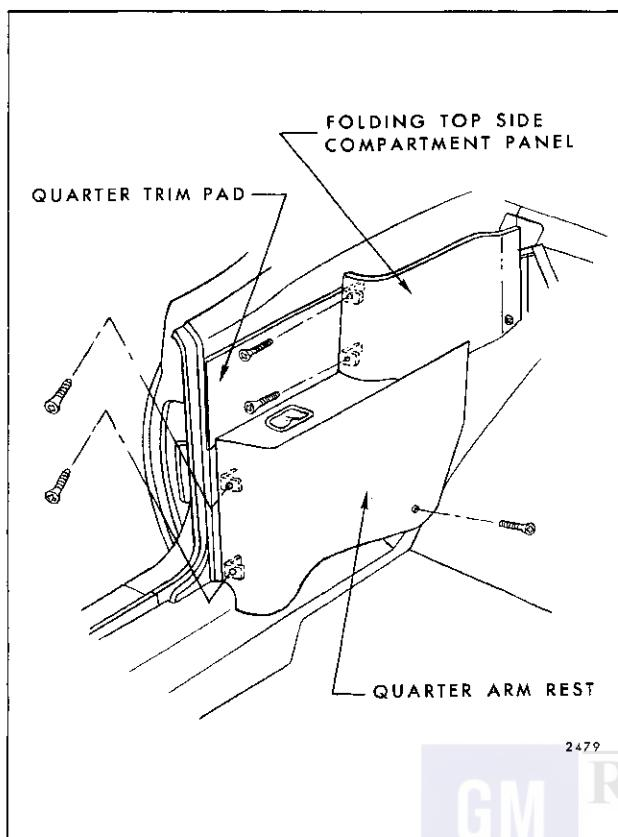

Fig. 14-18—Rear Quarter Trim - "67" Styles
NOTE: On all convertible styles except Cadillac, the floor mounted arm rest is subassembled to the folding top compartment side trim panel and must be removed as an assembly (Fig. 14-18).
- c. On convertible styles, remove exposed screws securing folding top compartment side trim panel (Fig. 14-18).